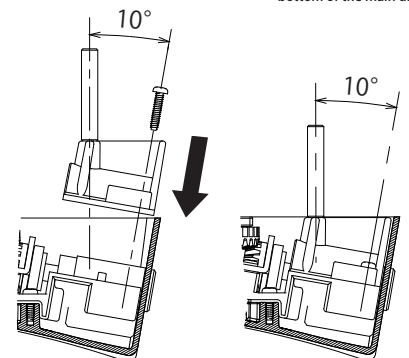

Fig. 9
6. Place the retaining part (e) along the bottom of the main unit and secure it with the two screws. Note: The screws are angled at 10°, so take care when tightening. (Fig. 9)